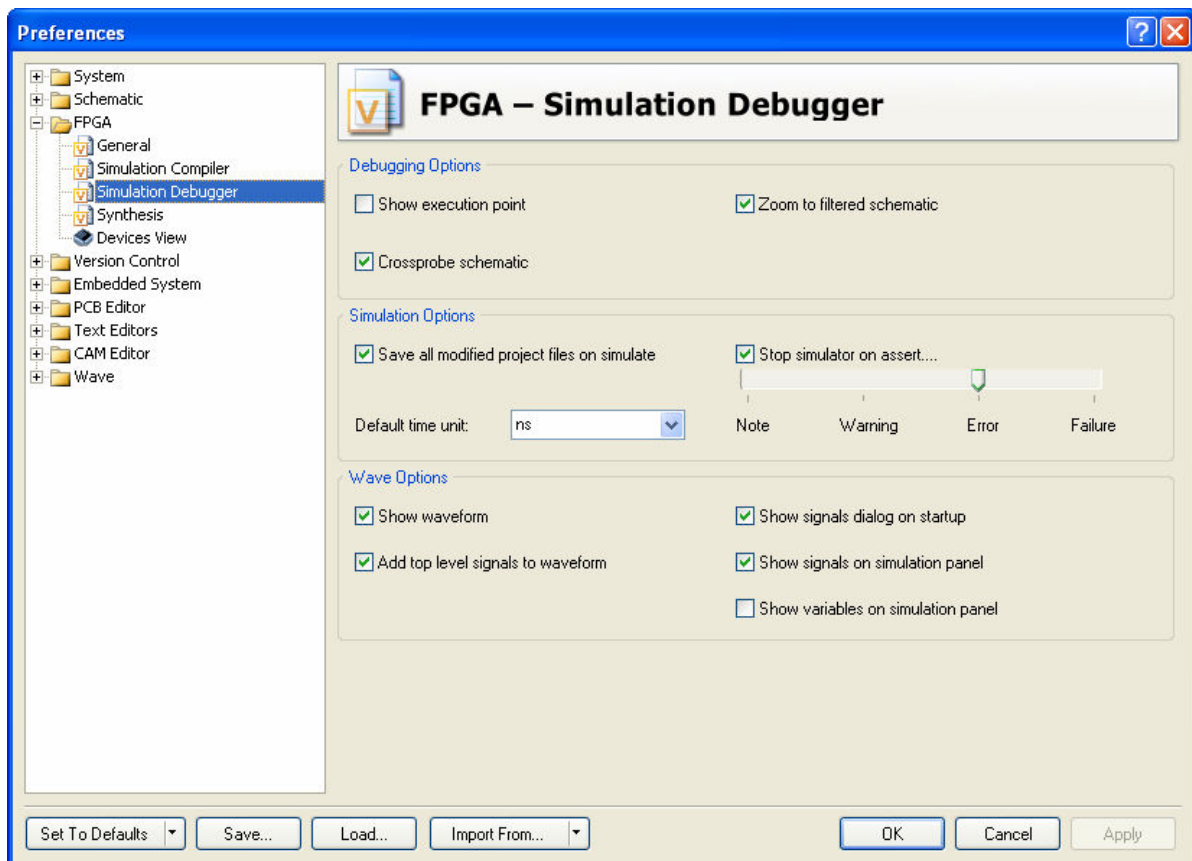

Figure 97. The simulation debugger options in the preferences dialog.
- **Run to Cursor** is useful when debugging VHDL source and will cause the simulator to run until the defined cursor location is encountered in a source VHDL document. The simulator will simulate everything up to the selected line. Make sure that the **Show execution point** option is enabled, in the **Debugging Options** region of the **FPGA – Simulation Debugger** page of the *Preferences* dialog (Figure 97).